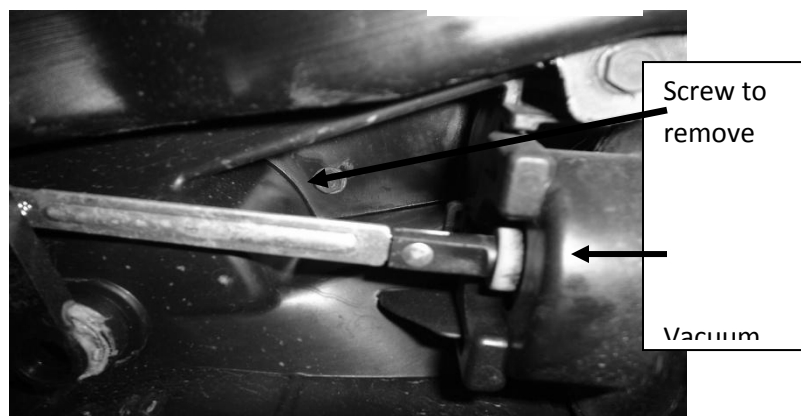

Figure 7.2
4. Remove the screw on the bottom of the case behind the vacuum actuator. Fig. 7.2